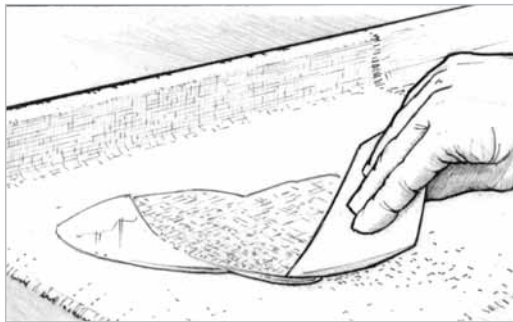

Figure 5-17 Spread the epoxy from the center of the fabric toward the edges with a plastic spreader.
- Spread the epoxy over the cloth surface with a plastic spreader, working the epoxy gently from the pool into the dry areas (*Figure 5-17*). Use a foam roller or brush to wet out fabric on vertical surfaces. Properly wet out fabric is transparent. White areas indicate dry fabric. If you are applying the cloth over a porous surface, be sure to leave enough epoxy to be absorbed by both the cloth and the surface below it. Try to limit the amount of squeegeeing you do. The more you “work” the wet surface, the more minute air bubbles are placed in suspension in the epoxy. This is especially important if you plan to use a clear finish. You may use a roller or brush to apply epoxy to horizontal as well as vertical surfaces. Smooth wrinkles and position the cloth as you work your way to the edges. Check for dry areas (especially over porous surfaces) and re-wet them as necessary before proceeding to the next step. If you have to cut a pleat or notch in the cloth to lay it flat on a compound curve or corner, make the cut with a pair of sharp scissors and overlap the edges for now.